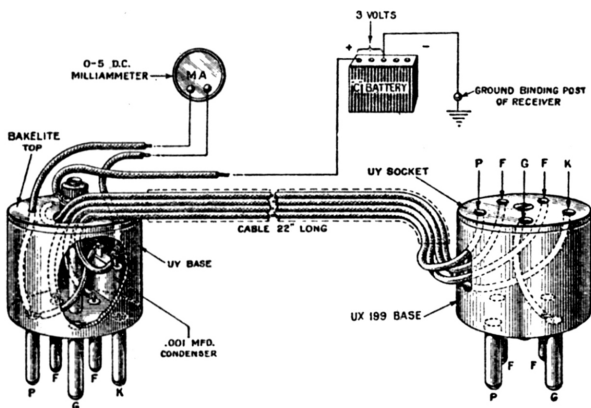
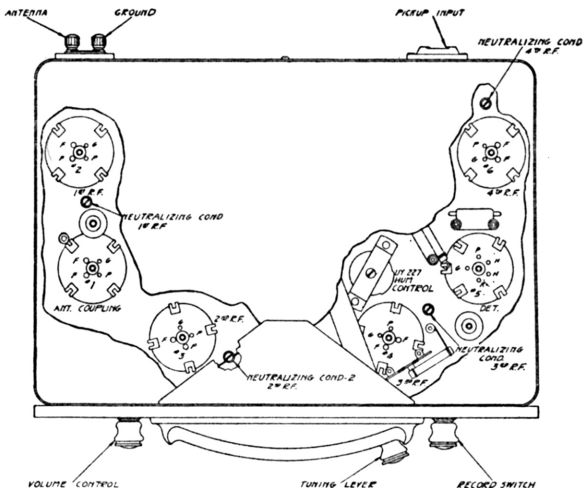
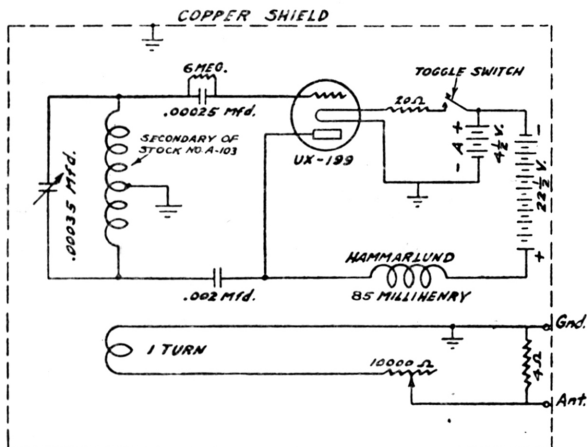

Fig. 4—Circuit for Tube Voltmeter, Na-Ald. No. 982
Fig. 5—Top View of Radio, Showing Radiotron Sockets
Fig. 6—Schematic Wiring Diagram, Modulated Oscillator
all tubes are lighted, and that all cables are connected. In the combination models, play a record in the usual manner with the volume control advanced to maximum. On the radio models without Electrola, connect two wires to the terminals of a dry cell or to the 1½ volt terminals of a "C" battery. Touch these wires across the two pin jack terminals marked "Phono," and note any click in the reproducer when this is done. If the record reproduction is correct, or if there is a noticeable click when the pickup pin jack terminals are tested in this manner, the trouble must lie in the radio set, and reference should be made to subject 7 below. If there is no record reproduction, reference should be made to subjects 8 and 9 below. It is recommended that a tube voltmeter, such as shown in Fig. 4 and a Weston or Jewell test box be used for isolating trouble in the radio set.
- c. Remove the tube in socket No. 1, Fig. 5, (coupling stage), place the UX adapter in this socket with the UY-227 in the socket of the adapter. Note the meter reading when all connections are made in accordance with Fig. 4 and no station is being received.
- d. Place the UX adapter in socket No. 2, Fig. 5, (1st R. F.), and note a slight increased meter reading when a powerful local station is tuned in. Note: If such a broadcast signal is not available, a modulated oscillator, such as shown in Fig. 6, can be used.